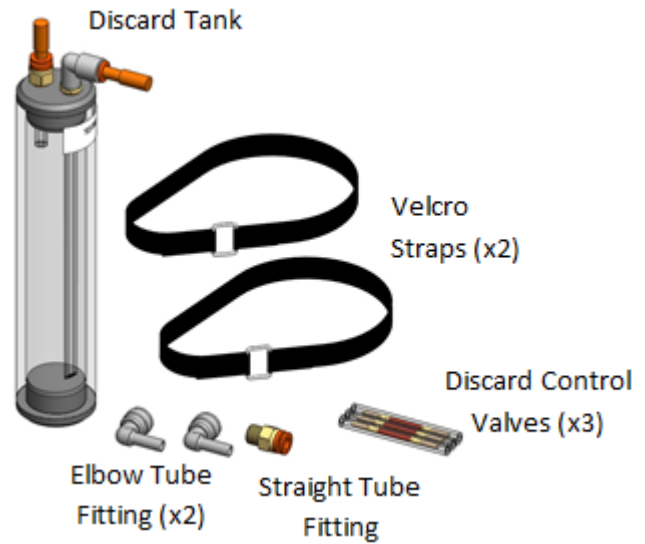

Figure 4: Upgrade Kit 11736-1 or -2.
- a. The Discard Control Upgrade Kit (11736-1 or -2) can be retrofitted to any 3" vacuum tank (Figure 4).